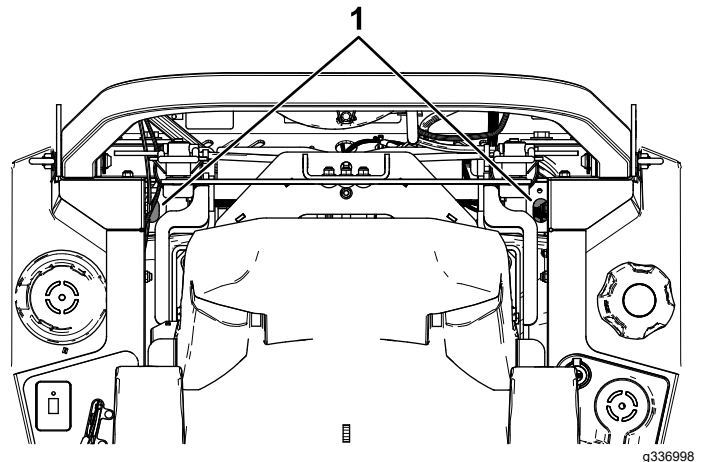

Figure 73
4. Using an extension and 7/16-inch socket, access the vent plug from the top of the machine through the holes near the roll-bar mounts (Figure 73).